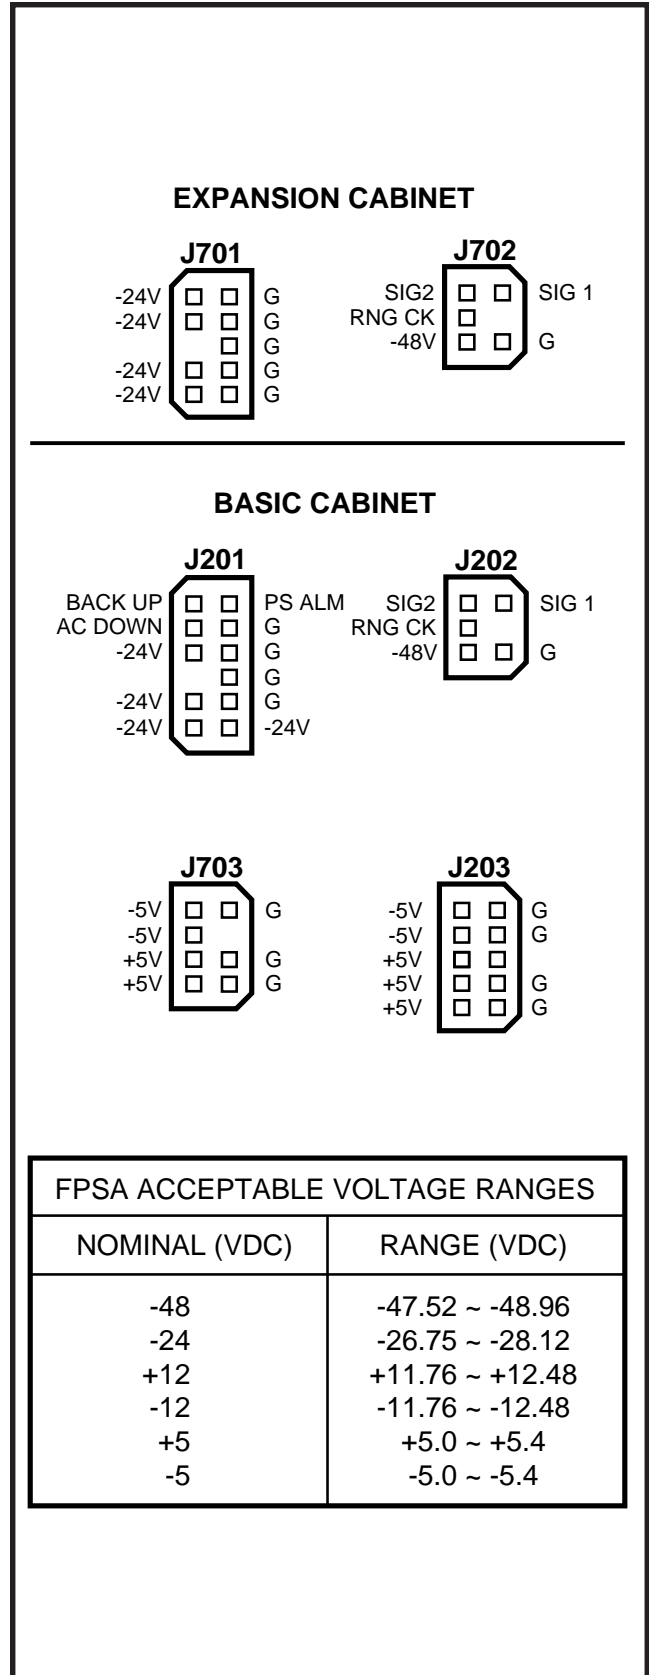

FIGURE 4-3—PERCEPTIONe VOLTAGE CHECKS
- 13) Using a multimeter (set to the appropriate ranges), check the pins on connectors **J201**, **J202**, **J203** and **J703** for the voltages shown in Figure 4-3. (The connectors are on the rear of the power supply chassis.) Measure between the voltage pin and a ground pin. (All ground leads are tied to a single point, so any can be used.) Figure 4-3 also shows the acceptable range for each output voltage. If a measured voltage falls outside of the acceptable range, replace the main power supply.
and **J702** on the secondary power supply for the voltages shown in Figure 4-3. (The connectors are on the rear of the power supply chassis.) Measure between the voltage pin and a ground pin. (All ground leads are tied to a single point, so any can be used.) Figure 4-3 also shows the acceptable range for each output voltage. If a measured voltage falls outside of the acceptable range, replace the secondary power supply.